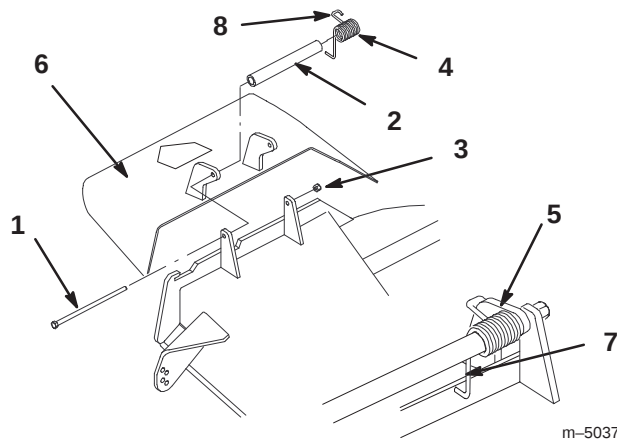

Figure 6
Note: Make sure the **L** end of spring is installed behind deck edge before installing the bolt as shown in figure 6.
3. Install bolt and nut. Place **J** hook end of spring around grass deflector (Fig. 6).